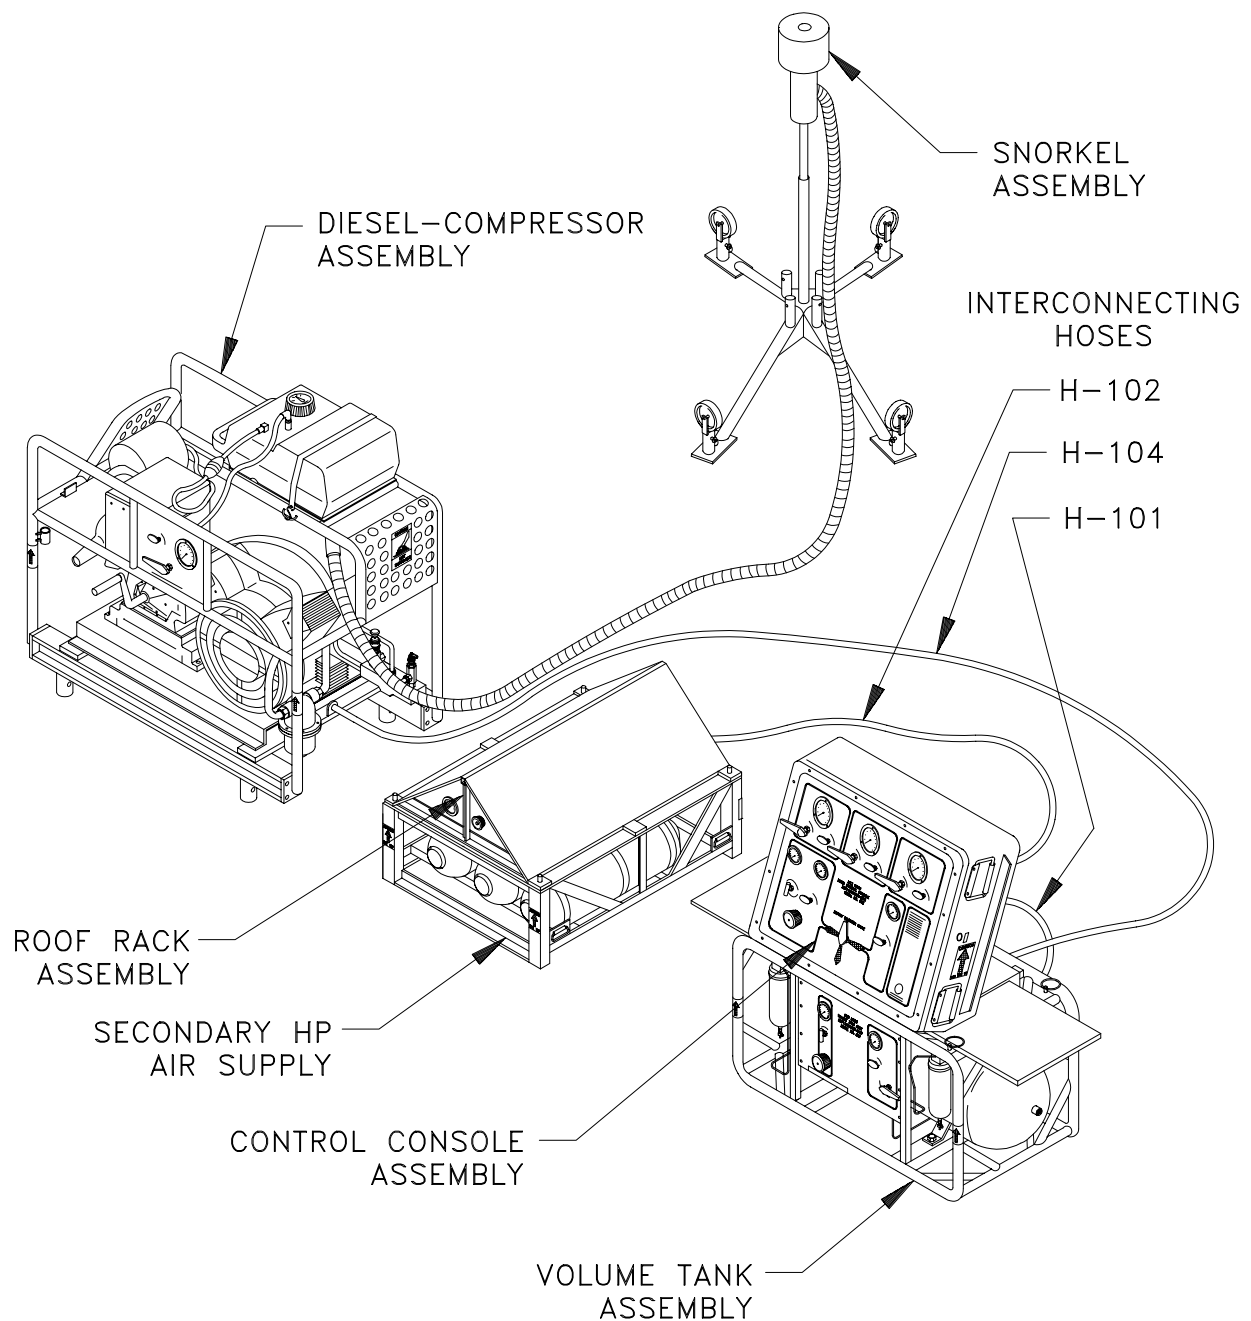

Figure 1-2. Lightweight Dive System (LWDS) MK 3 Mod 0, Configuration 1
1.3.1 CONFIGURATION 1. Configuration 1 (Figure 1-2) is used for dive missions limited to a maximum dive depth of 60 fsw. The primary air supply consists of a frame-mounted diesel-compressor assembly that produces low pressure (LP) air. Fresh, filtered air is supplied to the compressor intake through a remote snorkel assembly. The LP air flows from the diesel-compressor assembly to the volume tank assembly where the air is stored and filtered a second time before being passed through the control console assembly to the divers.